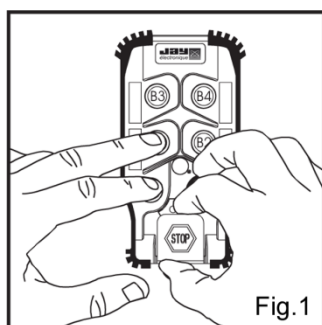

Fig.1
- unlock the emergency stop palmswitch on the transmitter (fig.1),
- unlock the emergency stop palmswitch on the transmitter (Fig.1),
- Unlock the emergency stop palmswitch (fig.1),
- Unlock the emergency stop palmswitch on the transmitter (Fig.1),